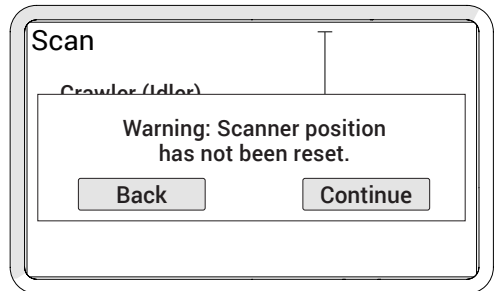

Fig. 99 - Exit warning
- 11 Exit button Pressing **Exit** stops all scanning motion. When the scanner is not in the **A** position, a warning appears (*Fig. 99*). The warning alerts that the **A** position of the scanner will be changed to the current position.